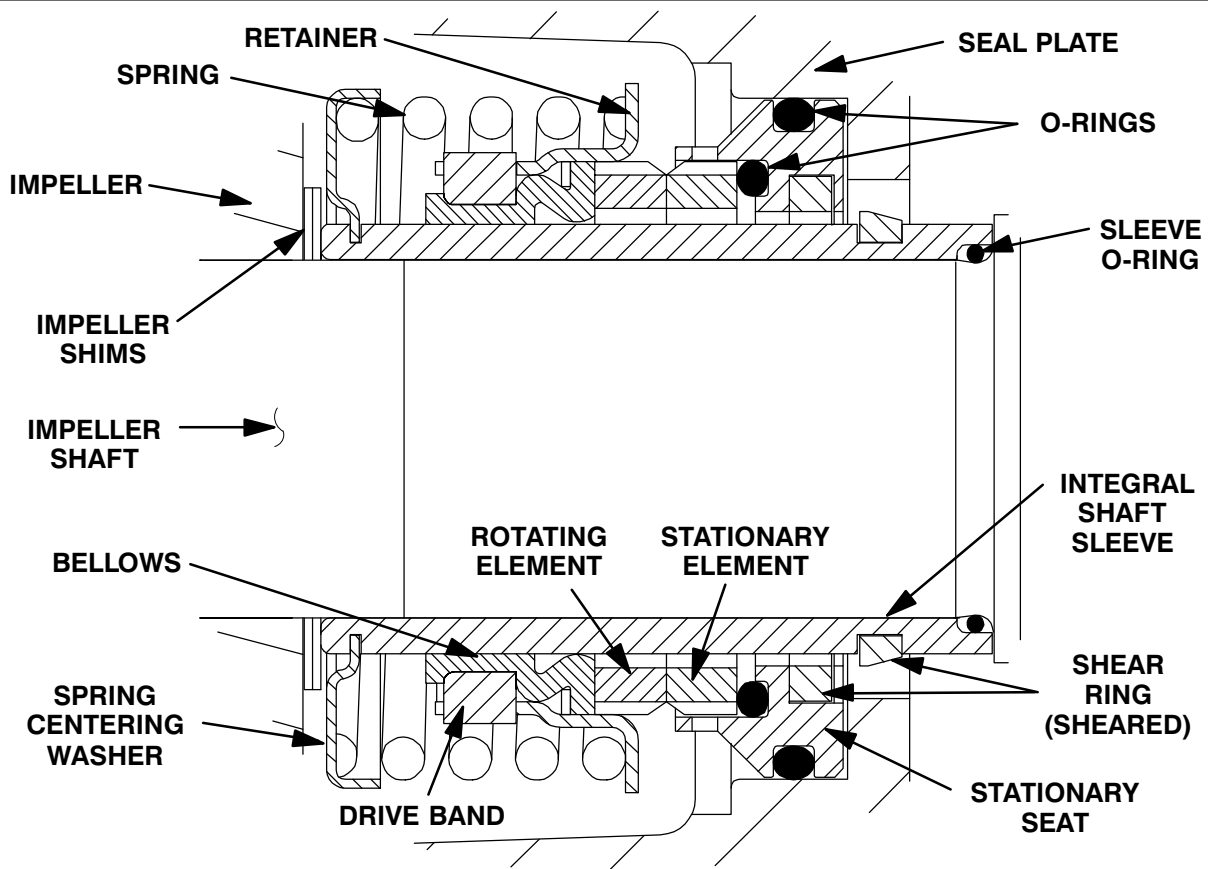

FIGURE 5. Cartridge Seal Assembly
To ease installation of the seal, lubricate the shaft sleeve O-ring and the external stationary seat O-ring with a very **small** amount of "P-80" Emulsion" or water. See Figure 5 for seal part identification.
Clean and inspect the impeller as described in **Impeller Installation and Adjustment**. Install the full set of impeller shims (3) provided with the seal, and screw the impeller onto the shaft until it is seated against the seal (see Figure 5).